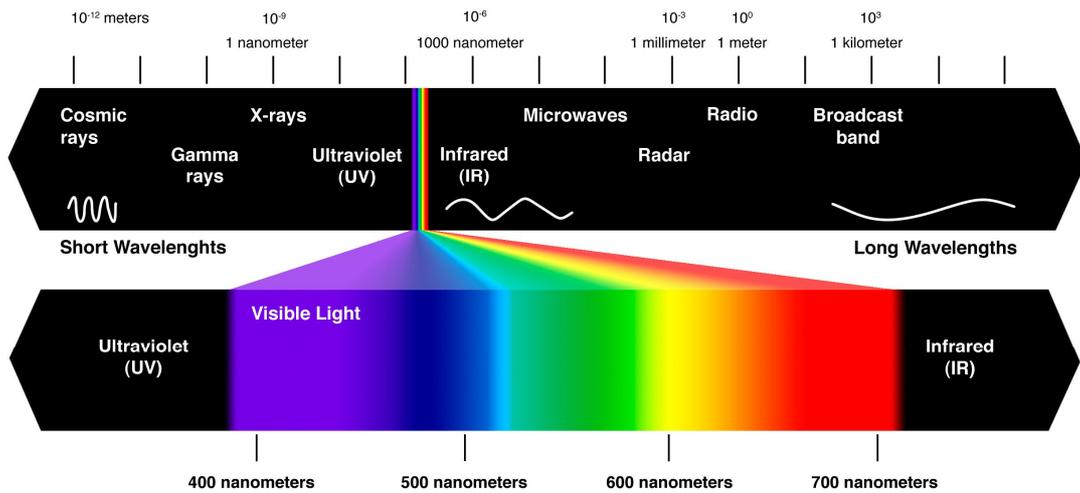

Figure 8.2 Frequency Spectrum
The flame sensor that comes with the Uno Starter Kits is actually a NPN phototransistor. It looks like an LED, but has a dark casing (see Figure 8.1). The dark casing blocks out most of the visible light and allows for infrared (IR) energy to transmit through. IR waves can't be seen with the naked eye, because their frequency is just below the lower portion of the visible light spectrum, as illustrated in Figure 8.2. But sensors like the phototransistor can pick up their presence. IR waves are normally found emitting from heat sources, such as a flame or even a light bulb (which can get very hot!).